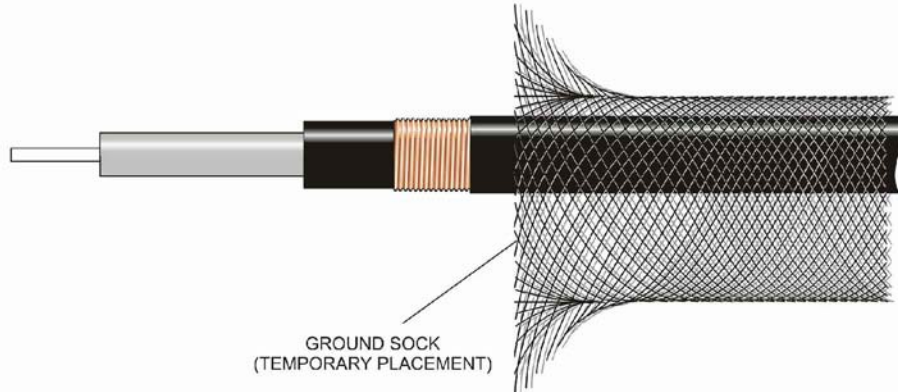

FIGURE 3
STEP 12: PLACE A GROUND SOCK, SEE TABLE 5, ONTO EITHER ONE OF THE CABLES AND SLIDE IT OUT OF THE WAY. THIS GROUND SOCK WILL BE INSTALLED LATER. SEE FIGURE 3.